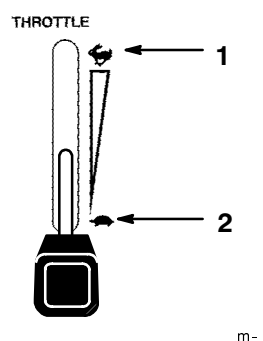

Figure 11
1. Move the throttle lever to “SLOW” (Fig. 11).